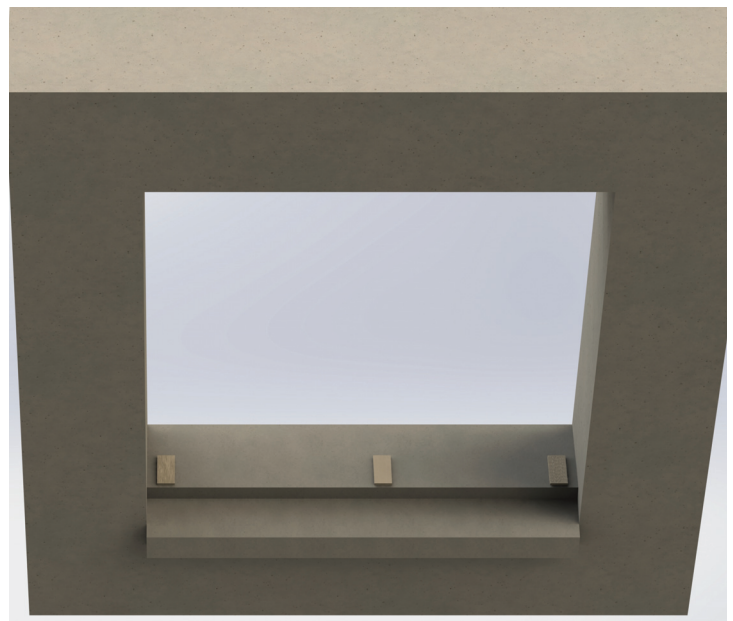

Fig. 2
- D. Check the fit of the unit making sure the conditions are level, the installer can pre-apply the shims to the sill condition prior to installation of the window frame. (Fig. 2)